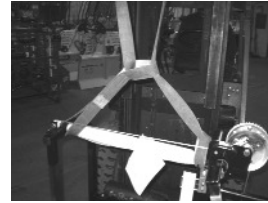

Figure 1
- 1 - Machine needs to be lifted at the lifting point, see figure 1 for lifting for points. Use a safety device for lifting to avoid any damage/injury.